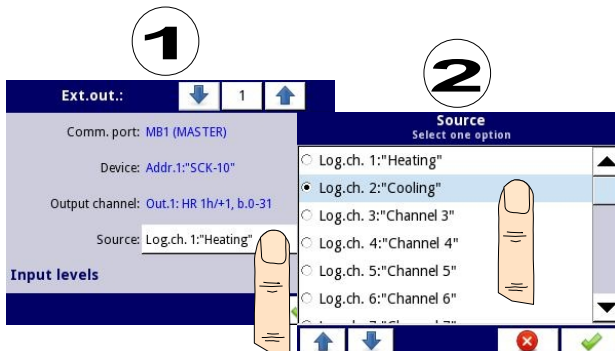

Fig. 7.94. Sample selection of **Source** for External output
- **Source** – this parameter allows to choose a source for external output from logical channel list (see Fig. 7.94),